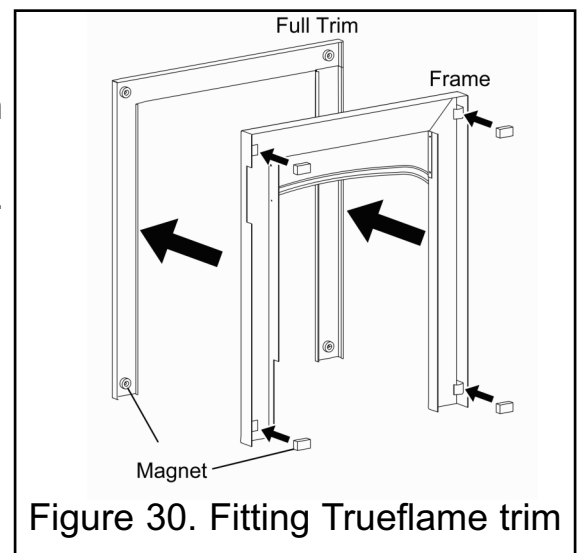

Figure 30. Fitting Trueflame trim
Place 4 magnets onto the frame so they are located on top of the magnet brackets as shown in figure 30.
- i) Place 4 magnets onto the full trim so that there is one on each side of the trim and two spaced along the top (See figure 30).
- iii) Place 4 magnets onto the frame in the same as in 3a (See figure 30).